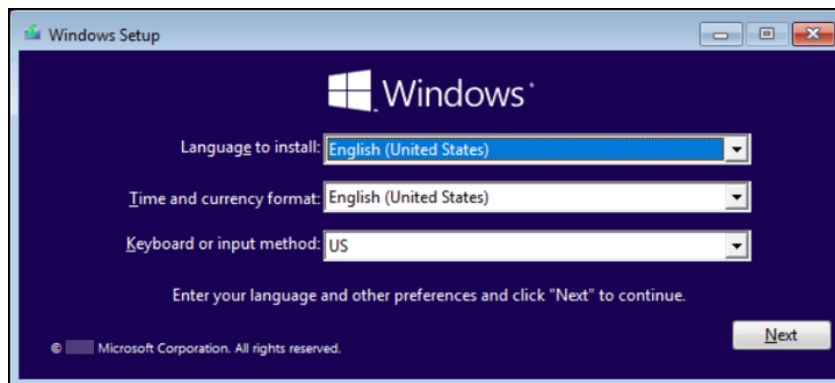

Figure 2-1. Windows Setup dialog
The computer boots from the DVD drive and the installation program displays the Windows Setup dialog (Figure 2-1).
4. On the Windows Setup dialog (Figure 2-1), select the **Language to install, Time and currency format, and Keyboard or input method** and click **Next**.